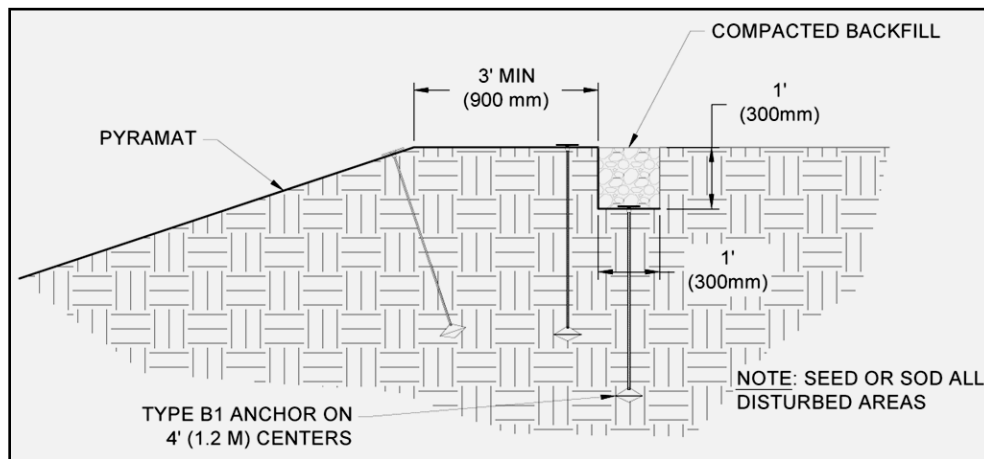

Figure 1: Crest of Slope (COS) Trench
3. Excavate a Crest of Slope (COS) trench 12 in x 12 in (300 mm x 300 mm) minimum at a distance of 3 ft (900 mm) from the crest of the slope. (Figure 1).